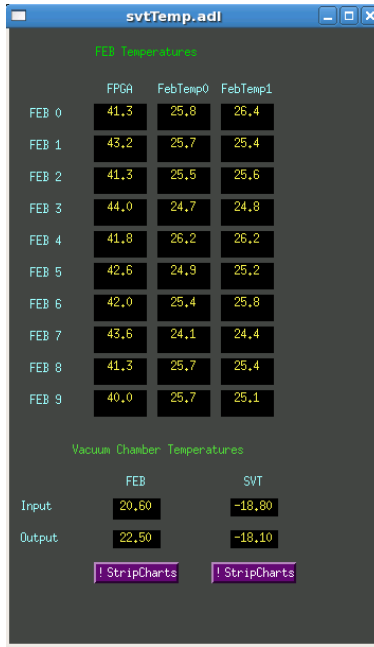

Figure 2.5: Temperature GUI.
- **Temperature** in Fig. 2.5.